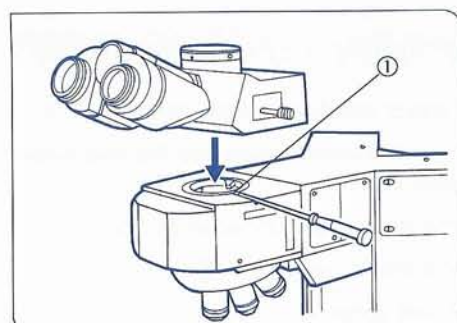

Fig. 15
1. Attach the sticker corresponding to the mounted objective with the lowest power at the hand switch magnification index position ①.
- ★ In the case of the quintuple nosepiece, skip the index position ⑥. Attach stickers with no magnification index at the numbers not used. (Fig. 15)
(Figs. 15, 16)
1. Using the Allen screwdriver, loosen the observation tube clamping screw ①.
2. Insert the circular dovetail mount at the bottom of the observation tube into the opening on the microscope frame, positioning the observation tube to point the binocular eyepieces towards the front. Clamp the observation tube by tightening the clamping screw. (Fig. 15)